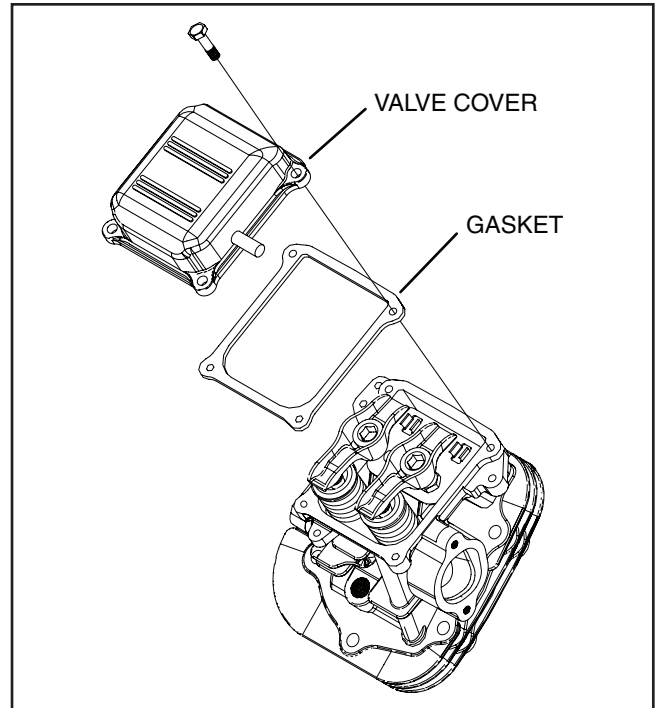

Figure 13-17. Install Valve Covers and Gaskets
3. Install valve covers with new gaskets, Figure 13-17